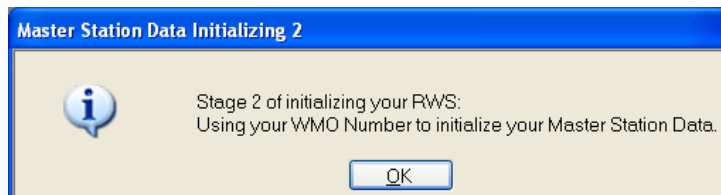

Figure B-13: Master Station Data Initializing 2 Window
3. Click **OK** to dismiss the *NOAA Warning* window. RWS will open with the *Master Station Data Initializing 2* window to indicate the Station WMO Number was used to initialize Master Station Data (Figure B-13).